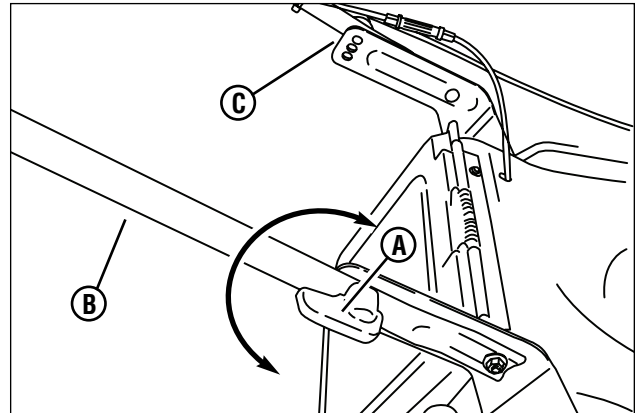

Figure 5: Adjusting the handle height
1. Turn the two locking cams (**A, Figure 5**) a quarter-turn to unlock the handle assembly (**B**).